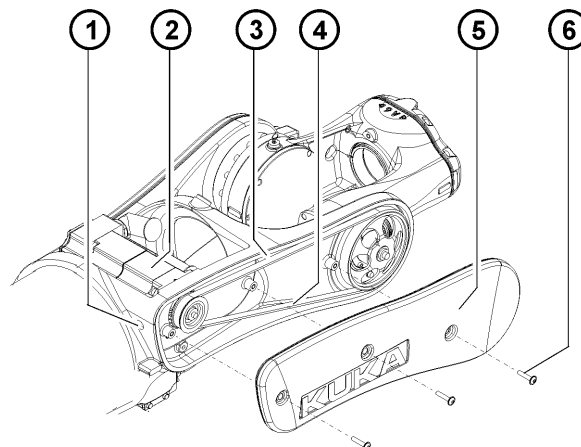

Fig. 11-18: Removal, installation of toothed belt for axis 6
1. Remove 3 fillister head screws (>>> Fig. 11-18) and take off cover and seal.